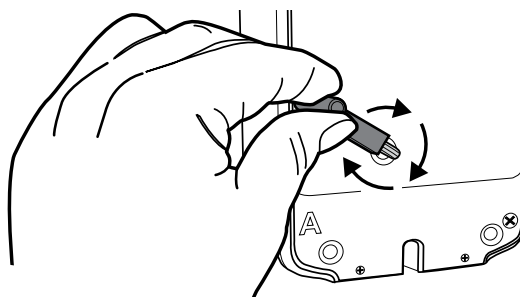

Figure 5: Rotate the manual override crank
3. Rotate the manual override crank in the direction indicated by the arrow on the label (*figure 5*).